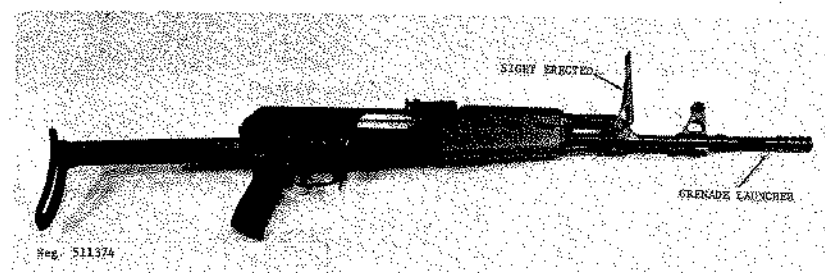

Figure 75. Yugoslav grenade launcher.
m. The Yugoslav grenade launcher (fig 75) should be used only on Yugoslav M64 series assault rifles that are equipped with a grenade sight (fig 64). The compensator (fig 64) is unscrewed (left-hand thread) after the lock plunger is depressed. The grenade launcher is screwed on, in place of the compensator. It may be necessary to depress the lock to insure that the launcher is fully screwed on (hand tight only!) (fig 75). Replace the compensator whenever the launcher is removed.